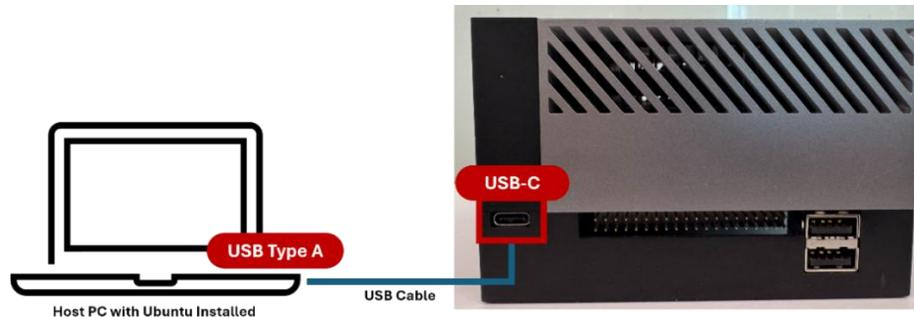

Figure 6.4. Ubuntu Host PC and Jetson AGX Orin Developer Kit Setup
1. Set up an Ubuntu 22.04 host PC with at least 8 GB of RAM and an internet connection. Connect the Ubuntu host to the Jetson AGX Orin using a USB cable as shown in Figure 6.4.